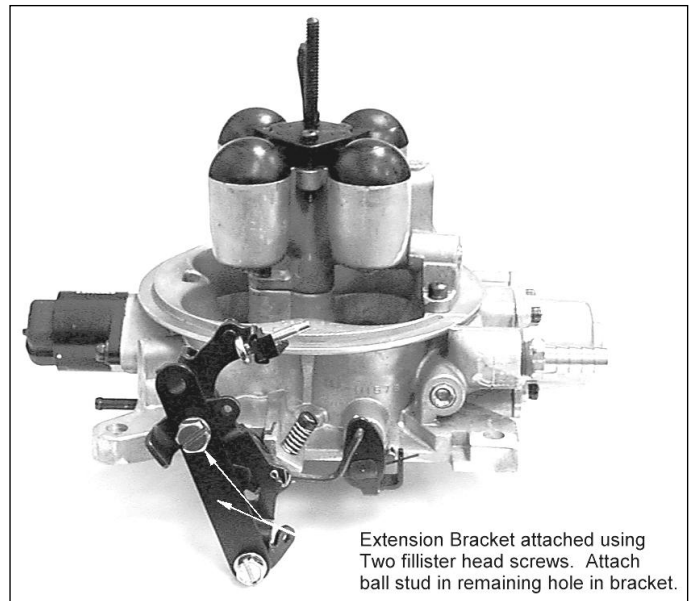

Figure 1
1. Measure the length of the throttle lever arm on the carburetor removed from the vehicle. Compare the length of the existing throttle lever arm with the one on the *HP EFI* throttle body. If the two throttle lever arms are similar in length (within 1/2" of each other), the throttle lever arm hole on the *HP EFI* throttle body can be used without the extension bracket. Use the throttle lever arm extension bracket, if the old throttle lever arm is significantly longer than the new throttle lever arm. Before installation of the bracket, check the diameter of the throttle cable stud. Some systems may use a 1/4" stud that will require drilling of the appropriate hole in the extension bracket to a 1/4" diameter. Attach the extension bracket using two fillister head screws as shown in Figure 1. The extension lever length can be adjusted using the four sets of holes.